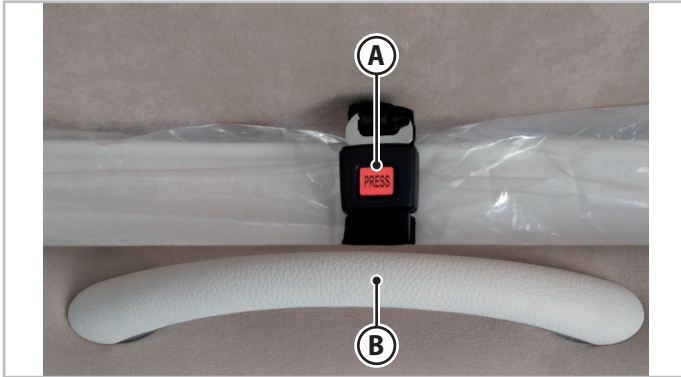

Fig.6.14 - Front pull-down bed over dinette
1. Release the safety device (**A** - Fig.6.14).
2. Press the corresponding movement handle (**B** - Fig.6.14) and bring the bed down to the end of its stroke.
1. Press the corresponding movement handle (**B** - Fig.6.14) and bring the bed down to the end of its stroke.
2. Secure the bed in place again using the safety device (**A** - Fig.6.14).